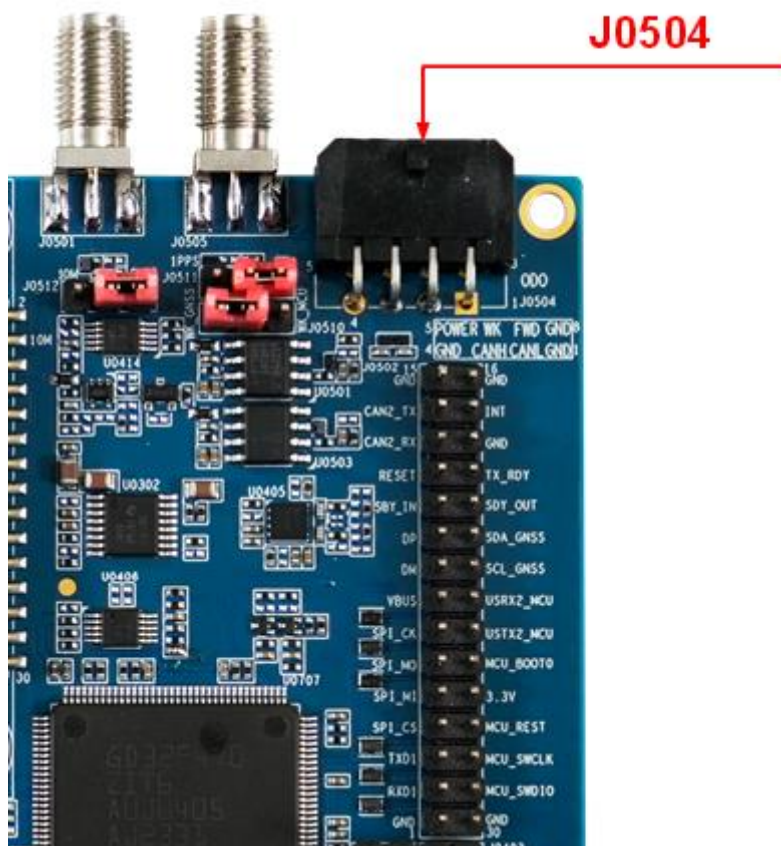
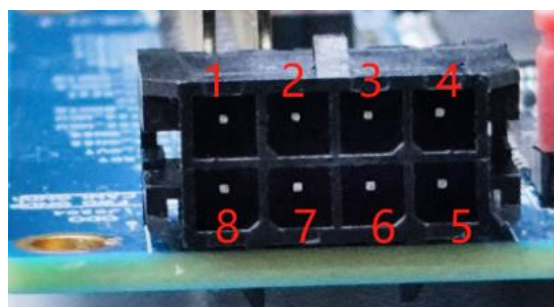

Figure 18: Connecting to EVB CAN Interface
Figure 19: J0504 Pin Assignment
Step 4: Connect the J0504 of the EVB with the corresponding interface of the vehicle, as shown in Figure 18: Connecting to EVB CAN Interface. Regarding J0504 pin assignment, see Figure 19: J0504 Pin Assignment and Table 6: J0504 Pin Description for details.